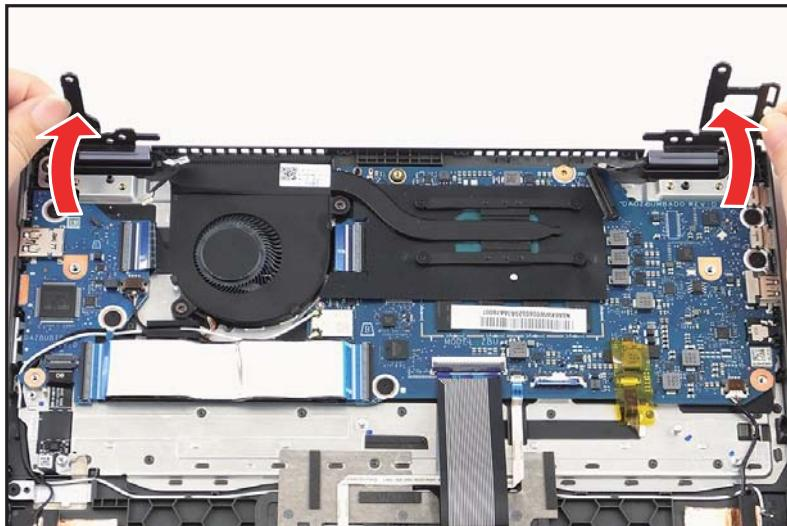

Figure 1-21. LCD Module Removal
6. Close the top assembly and lift both LCD hinges until they are fully extended (Figure 1-21).